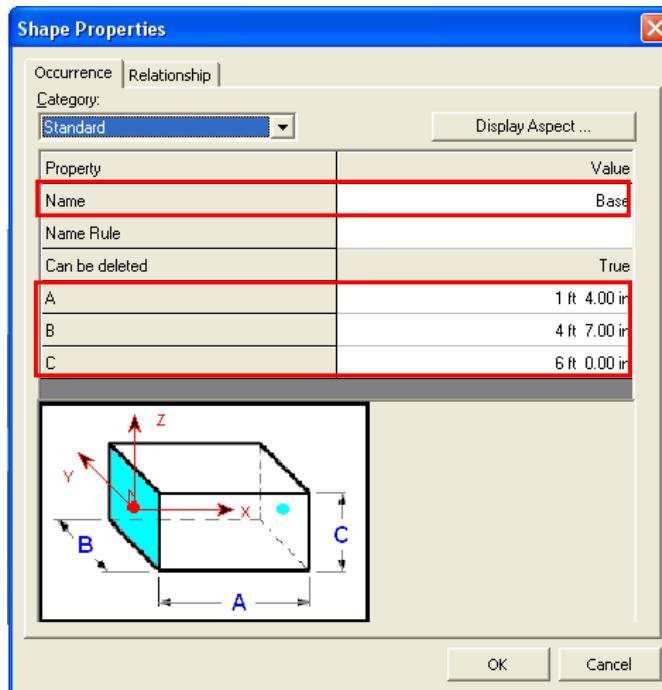

Figure 55: The Required Parameters for the Base Selected
28. The **Shape Properties** dialog box opens. Change the **Name** of the shape to **Base** and key in the values: **1 ft 4 in** for **A**, **4 ft 7 in** for **B** and **6 ft** for **C**, as shown in Figure 55.